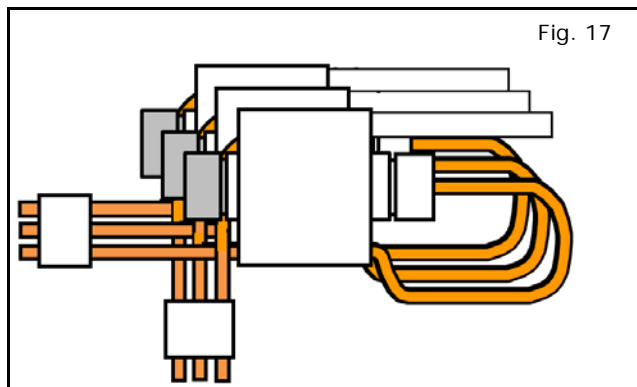

Fig. 17
- 18) Securing multiple accessory taps (Fig. 17).